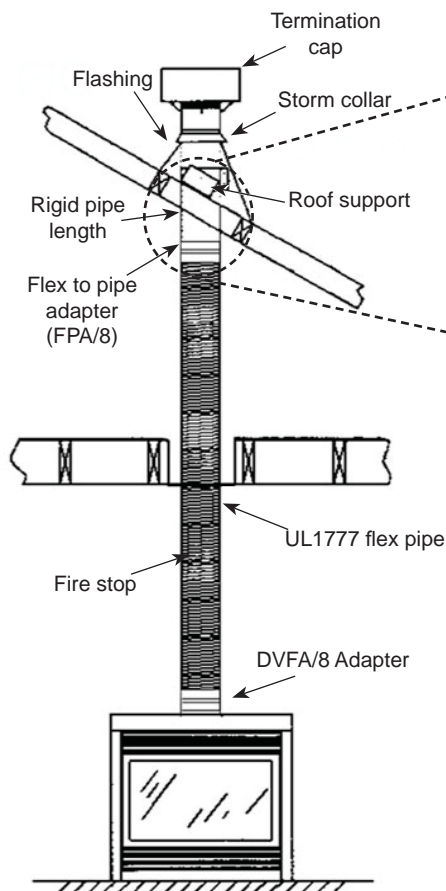

Figure 3 —
2. Install firestop spacers (see *Figure 3*) when penetrating ceilings, attic spaces, or walls.
4. Use only listed and approved terminations and accessories, installed per the installation instructions and *Figure 3*.